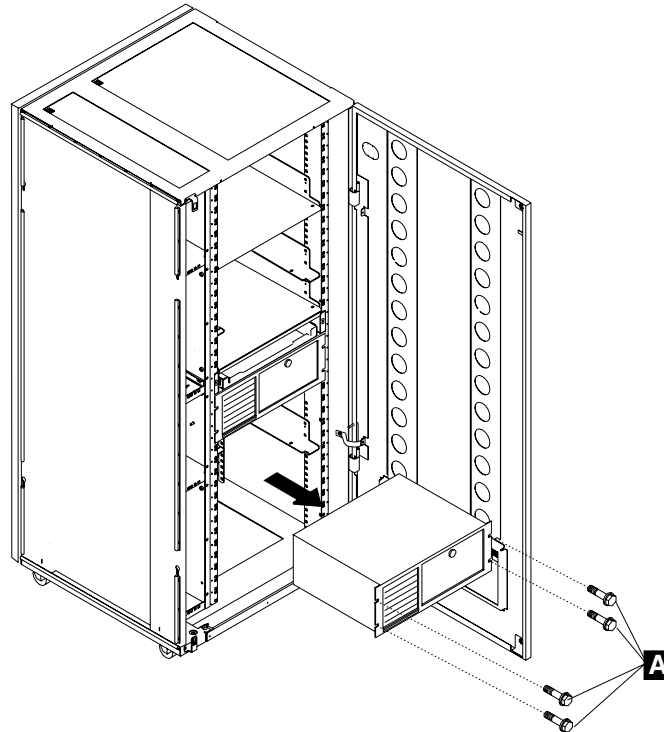

Figure 5. Removing the 7585 from the Controller Expansion
- \_\_\_ 4. If you remove a NNP based on 7585, at the front side of the rack loosen the four screws A , then slide out the NNP (see Figure 5 on page 9).